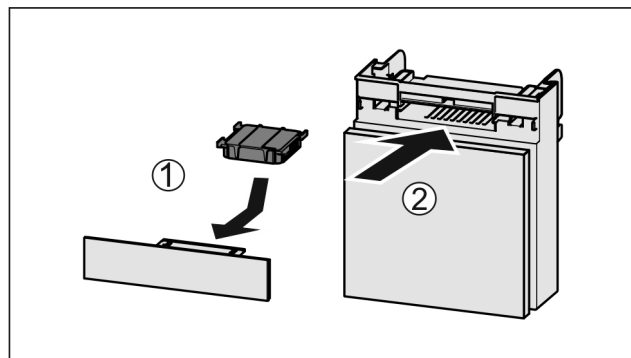

Fig. 130
- Insert the carbon filter as shown in the diagram Fig. 130 (1).
- Push the compartment in Fig. 130 (2).